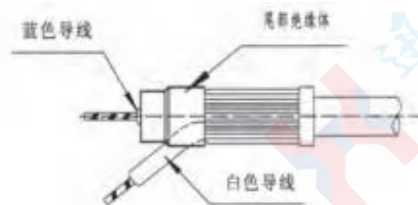

图35
③ As shown in Figure 35, bend the white conductor outward and place it into the slot of the insulator; pass the blue conductor through the insulator. The tail of the insulator must abut the shield layer.